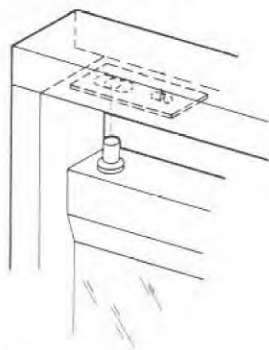
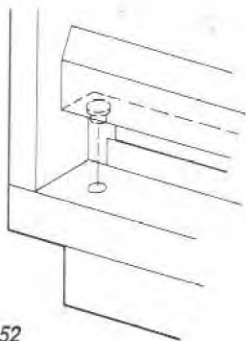

Figure 51
Figure 52
Step 6. Start with either the right or left door assembly and engage the longer upper hinge pin into the upper hole in the adjustment plate (Figure 51). Swing the lower corner of the door into position over the hole in the lower trim bar and engage the short pin in this hole (Figure 52). Repeat this procedure for the opposite door assembly.